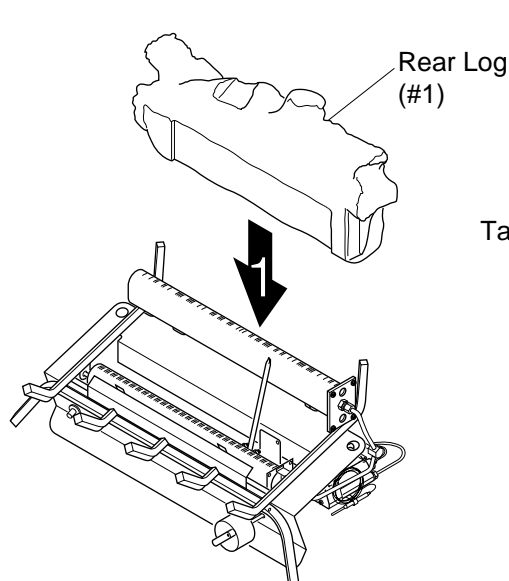

Figure 17 - Installing Rear Log
1. Slide rear log (#1) into place behind rear burner (see Figure 17).